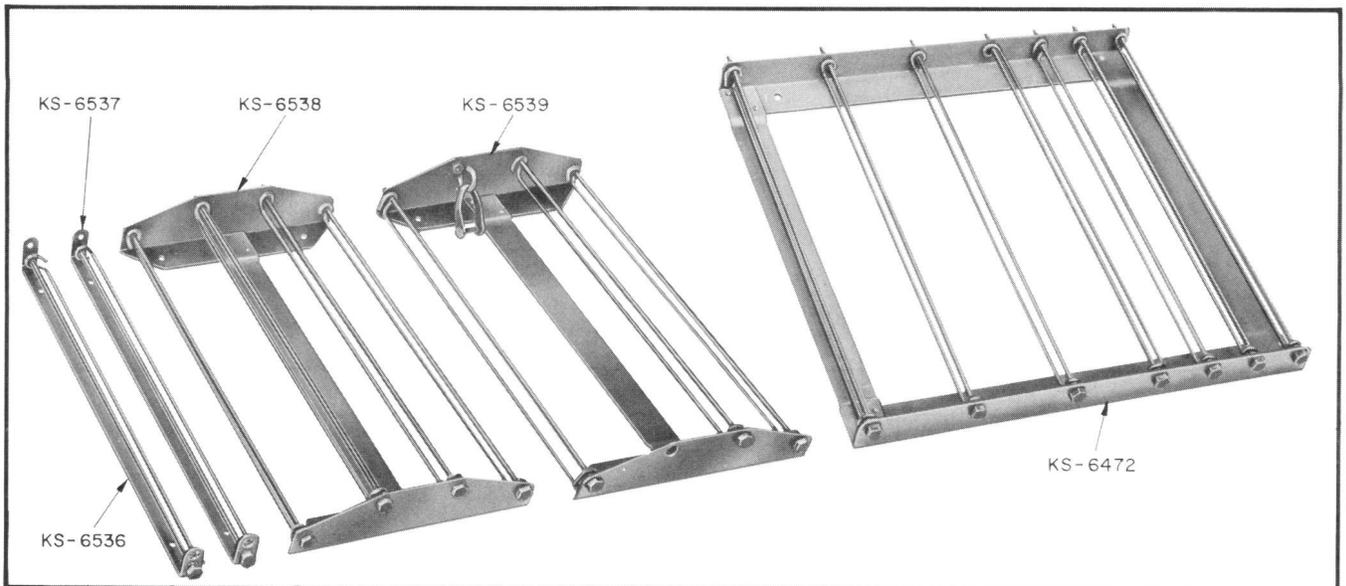

Fig. 6 — Directory Fasteners
3.01 The various types of directory fasteners are shown in Fig. 6. The capacity of each is listed in Table B.